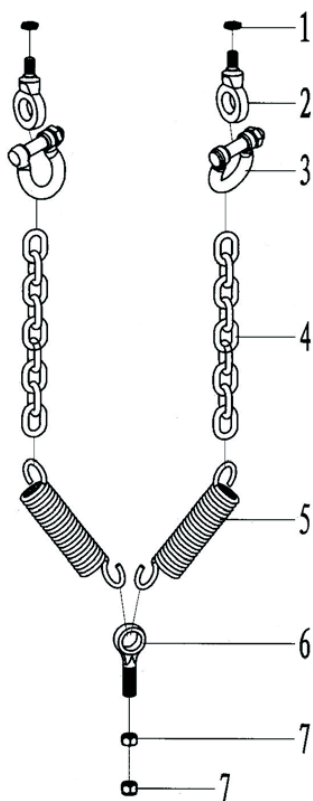

Fig.29
7.26 Rear spring assembly(Fig.29,Table29)